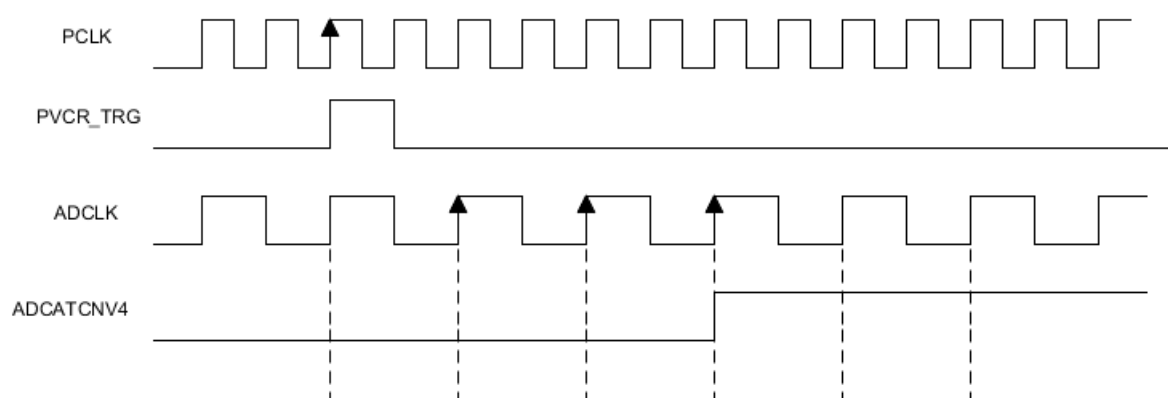

**Figure 6.1: Hardware Trigger behavior of Scanning group 1~3 and Temperature sensor**
- (1) Refer to HWM[2] chapter: 1.16.1.2, 1.16.1.3, 1.16.15.
- (2) The Figure 6.1 shows the behavior of TSN\_TRG and SGx\_TRG. When HW trigger of Temperature sensor (Scanning group 0) or Scanning group 1~3 is asserted, after 1 ADCLK period, the corresponding ADCATCNVn is asserted and the scanning process is started.